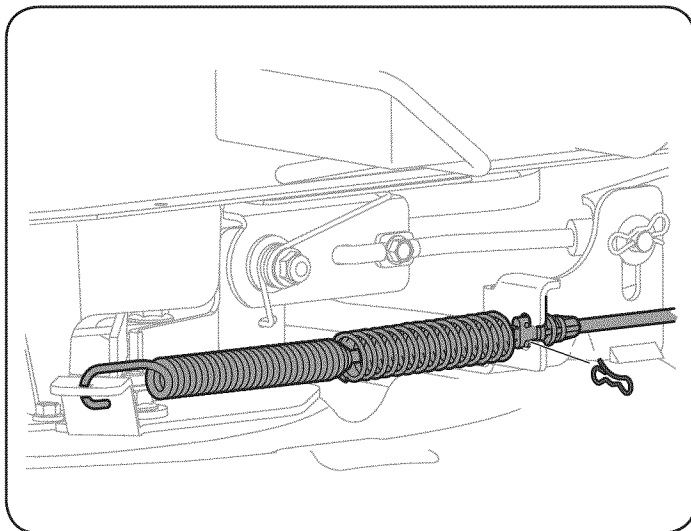

Figure 36
8. Carefully remove the PTO cable from the rear of the cutting deck by removing the bow-tie cotter pin which secures it. Remove the spring from the deck idler bracket. See Figure 36.